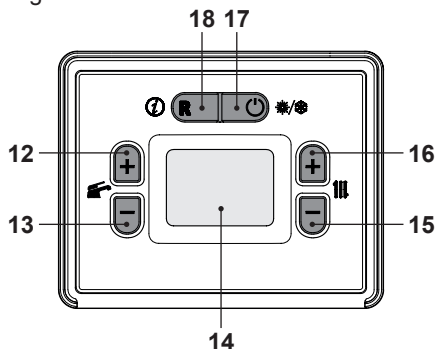

Fig. 2.7
- Press the key 17 and hold until both  and  symbols appear on the display Fig. 2.7.